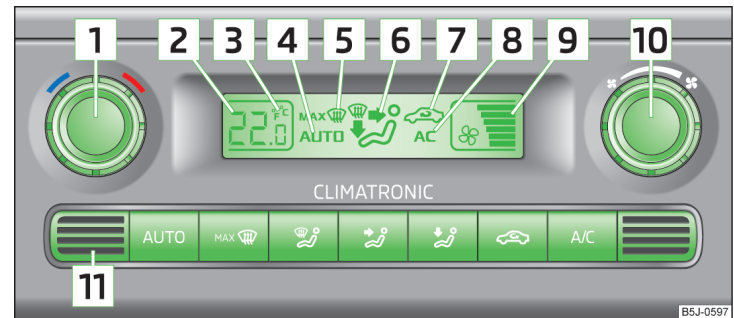

Fig. 102 Climatronic: Control elements
Do not stick anything on or cover the interior temperature sensor  » Fig. 102; it could have an unfavourable effect on the Climatronic system.
- › Press the **AUTO** button » Fig. 102 on page 95; **AUTO** will appear in the display.
- › Turn the control dial  » Fig. 102 on page 95 to the left or to the right to increase or decrease the temperature.
The information appears in the display in the desired temperature unit (no.  » Fig. 102 on page 95).
- › Press the  button » Fig. 102 on page 95.
- › Press the  button » Fig. 102 on page 95 again.
- › Turn control dial  » Fig. 102 on page 95 to the left or to the right to increase or decrease the blower speed.
The blower speed set is indicated by displaying the corresponding number of segments in icon  » Fig. 102 on page 95 in the display.
➤ Press the **MAX**  button » Fig. 102 on page 95.
➤ Press the **MAX**  button » Fig. 102 on page 95 again or press the **AUTO** button.